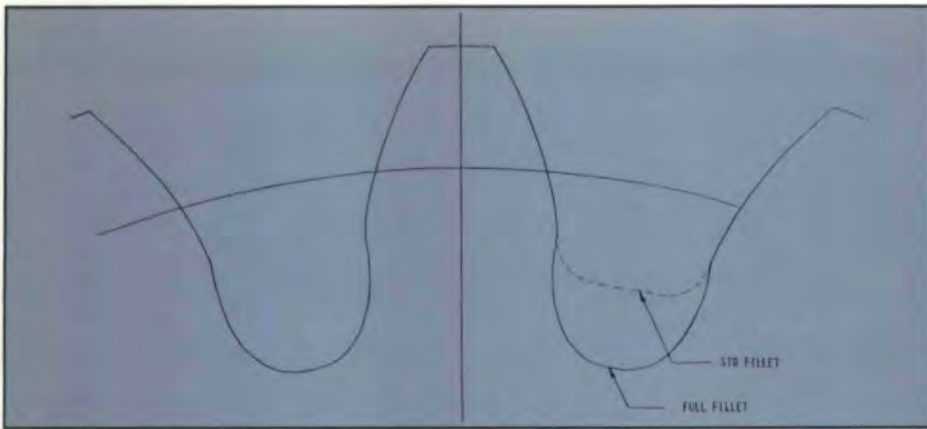

Fig. 8—Standard fillet vs full fillet.
- a. Standardize fillets for all new designs and use them wherever possible. Fig. 8 shows a comparison of standard fillets and full fillets.